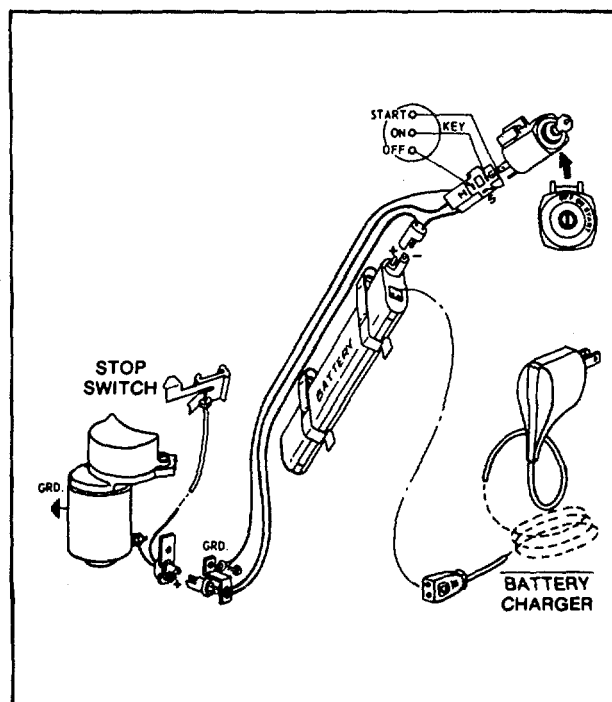

Fig. 49 - Wiring Diagram
- D. Poor electrical connection (wiring harness See Fig. 49).
- B. Faulty wiring harness (open circuit). See Fig. 49.